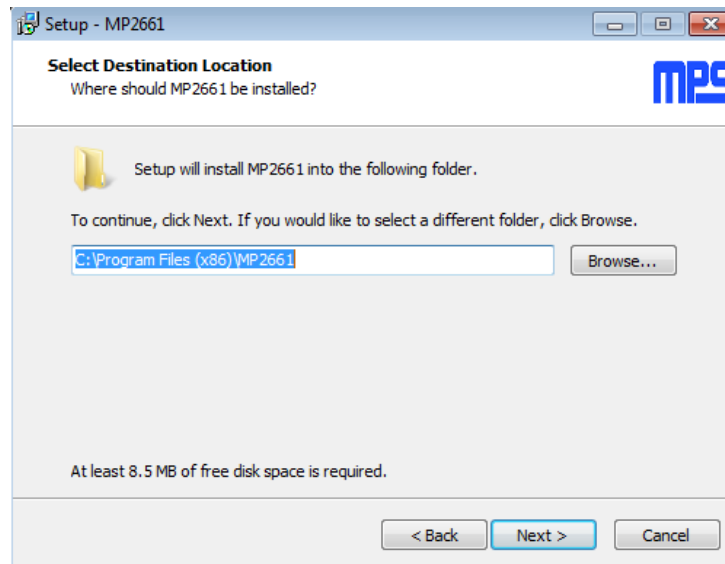

Figure 4: MPS I²C GUI Set-Up Guide
2. Double click the .exe file to open the set-up guide (see Figure 4).